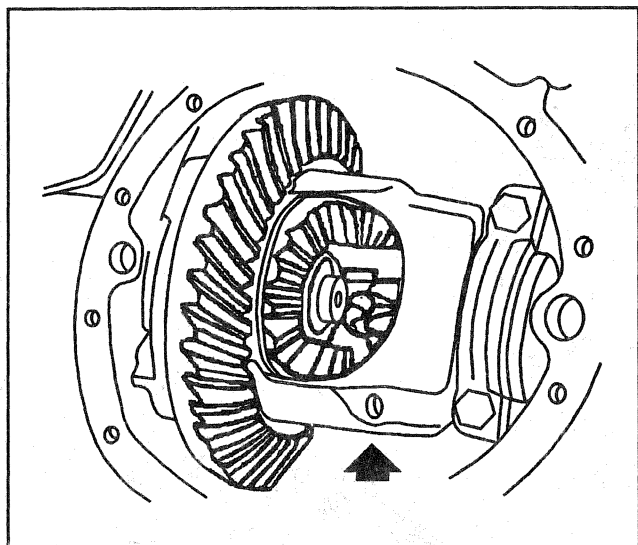

Figure 2—Pinion Shaft Lock Bolt
- 1. Differential cover bolts (14) and cover (12).
- 2. Pinion shaft lock bolt (15) (Figure 2).
3. Pinion shaft (17).
4. "C" clip (34) from the button end of the axle shaft (33).
- Push the axle shaft (33) in towards the center of the differential case (24).
5. Axle shaft (33) from the axle housing (1).
6. Seal (28) using an oil seal removing tool.
7. Bearing (27) using J 2619-01 and J 22813-01.
8. Pinion gear(21) and side gears (22).
- Roll the pinion gears out of the case with the pinion thrust washers (20).